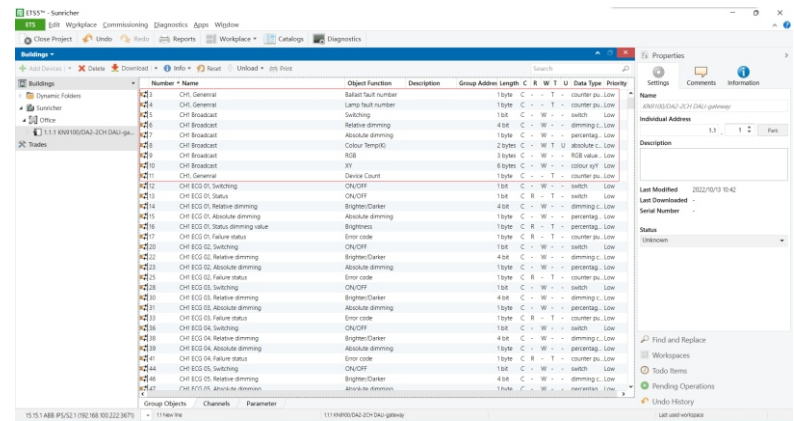

Figure 38
3.3.1. Group Objects of General & Broadcast (As shown in Figure 38)